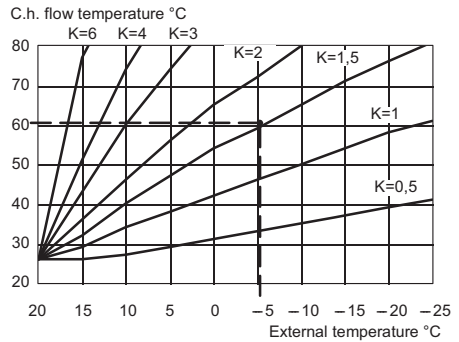
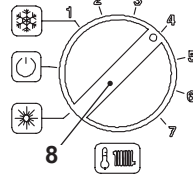

Fig. 7.9
Fig. 7.13
The curves given in the chart of Fig. 7.9 represent the c.h. flow temperature setting as a function of the external temperature measured by the external temp. probe.
The relationship between the external temperature and the c.h. flow temperature is represented by the coefficient K (Fig. 7.9) that can be set between 0 and 6 as hereafter explained.
E.g. to obtain a flow temperature setting of 60°C when the external temperature is -5°C, K must be set to 1,5 (dashed line in Fig. 7.9).
After setting the coefficient K, position the knob 8 as shown in Fig. 7.13 in order to obtain the c.h. flow temperature accordingly with the chart of Fig. 7.9.